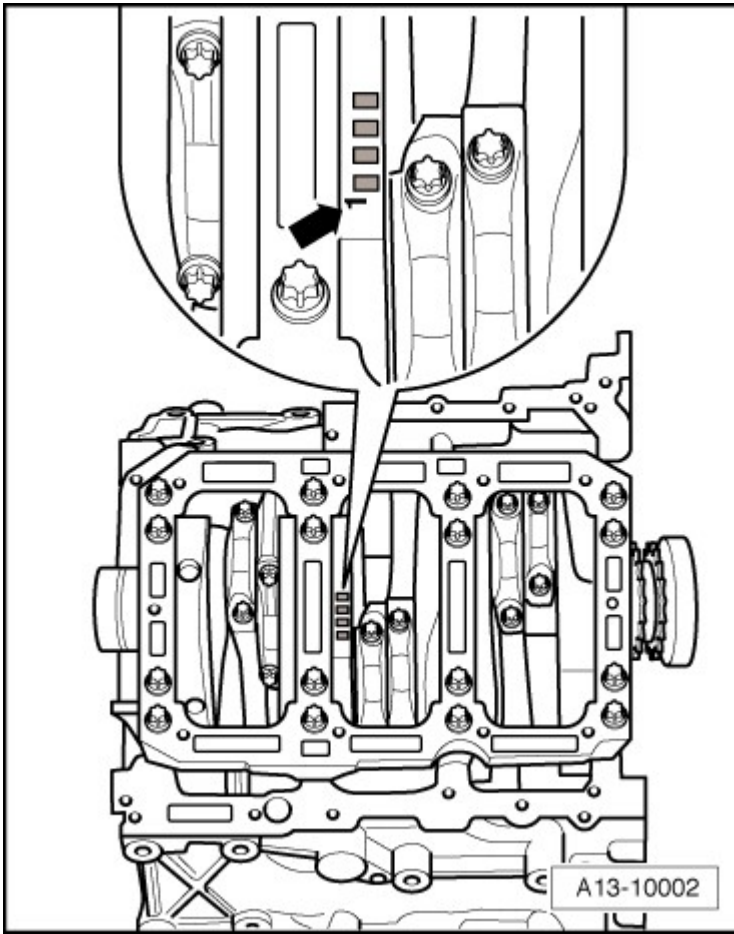

Fig. 10: Identifying Allocation Of Crankshaft Bearing Shells For Guide Frame
- Insert new bearing shells for guide frame with proper color marking, refer to **Fig. 10**